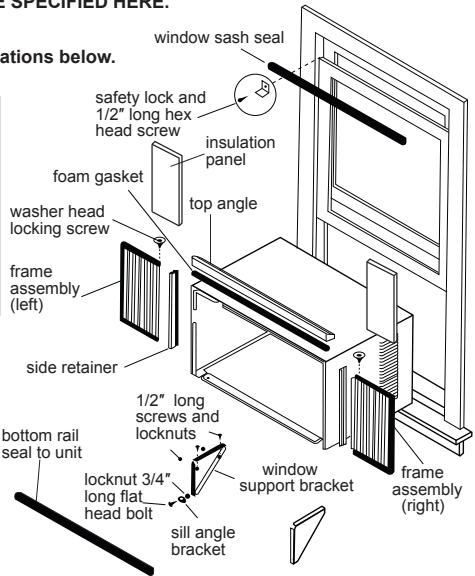

FIG.2
- 3. Check your storm windows:** If your storm window frame does not allow the clearance required, correct by adding a piece of wood as shown (FIG.2), or by removing storm window while room air conditioner is being installed.